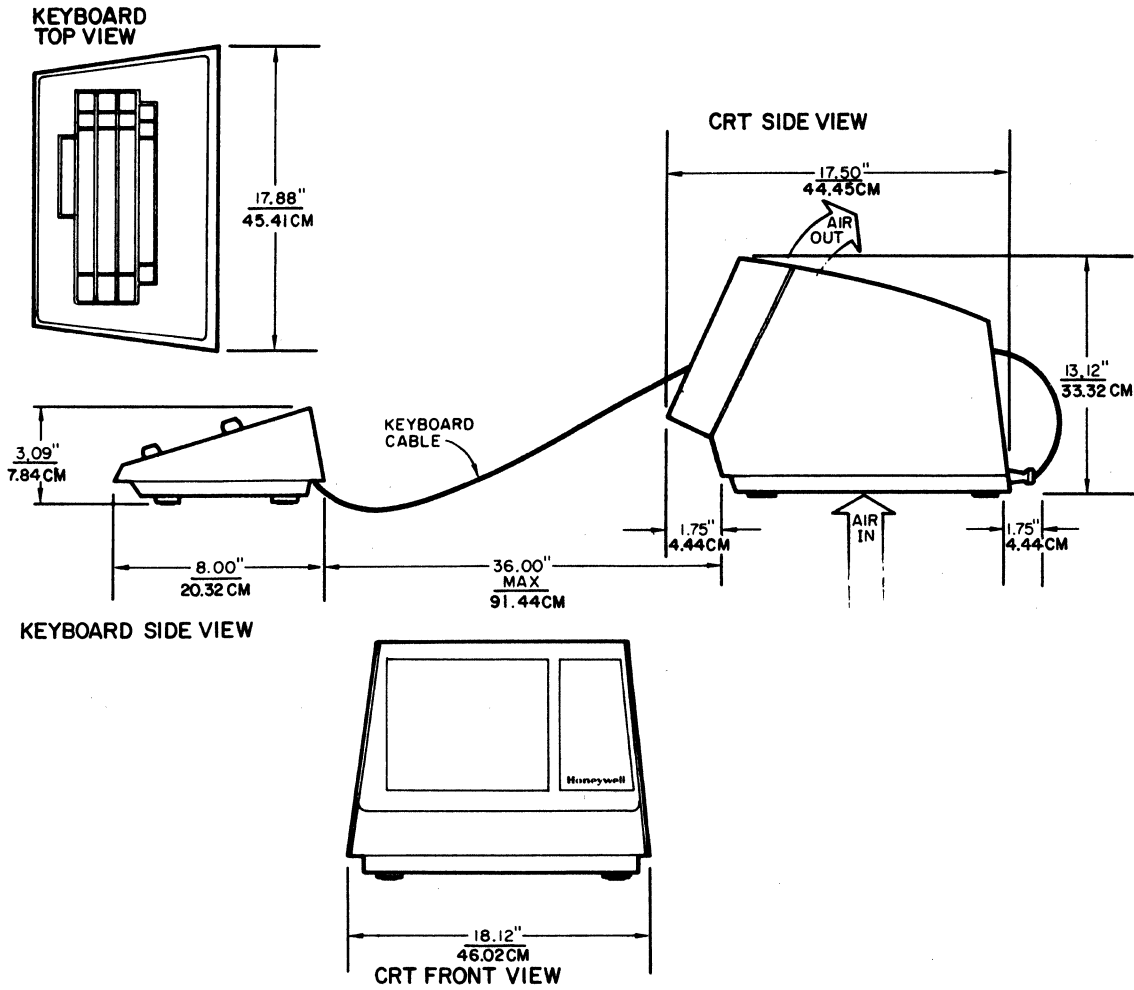

Figure 1-2 VIP7200 Video Display Terminal Dimensions
- a. Dimensions: See Figure 1-2